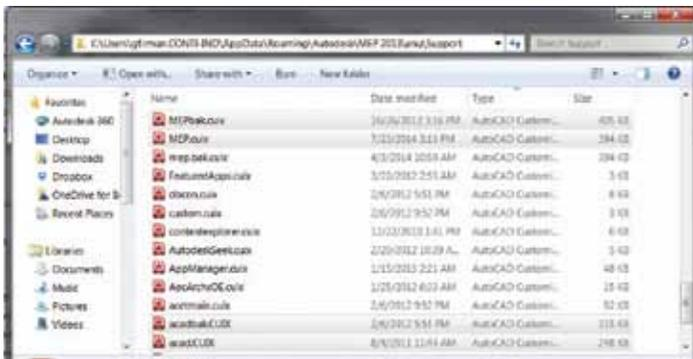

Figure 2: Example of new and backed-up CUIX files within the CUIX folder location
- In this folder take the two CUIX files and change them to acadbak.cuix and MEPbak.cuix (see Figure 2). Adding the “bak” to the original CUIX files will give you a form of back-up.